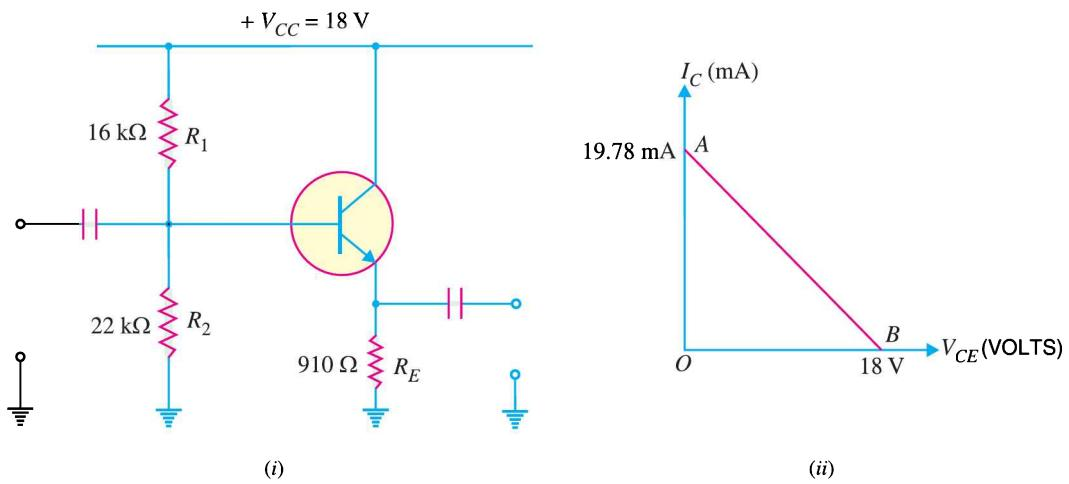

Fig. 13.14
**Example 13.19.** For the emitter follower circuit shown in Fig. 13.14 (i), find  $V_E$  and  $I_E$ . Also draw the dc load line for this circuit.
By joining points A and B, d.c. load line AB is constructed [See Fig. 13.14 (ii)].